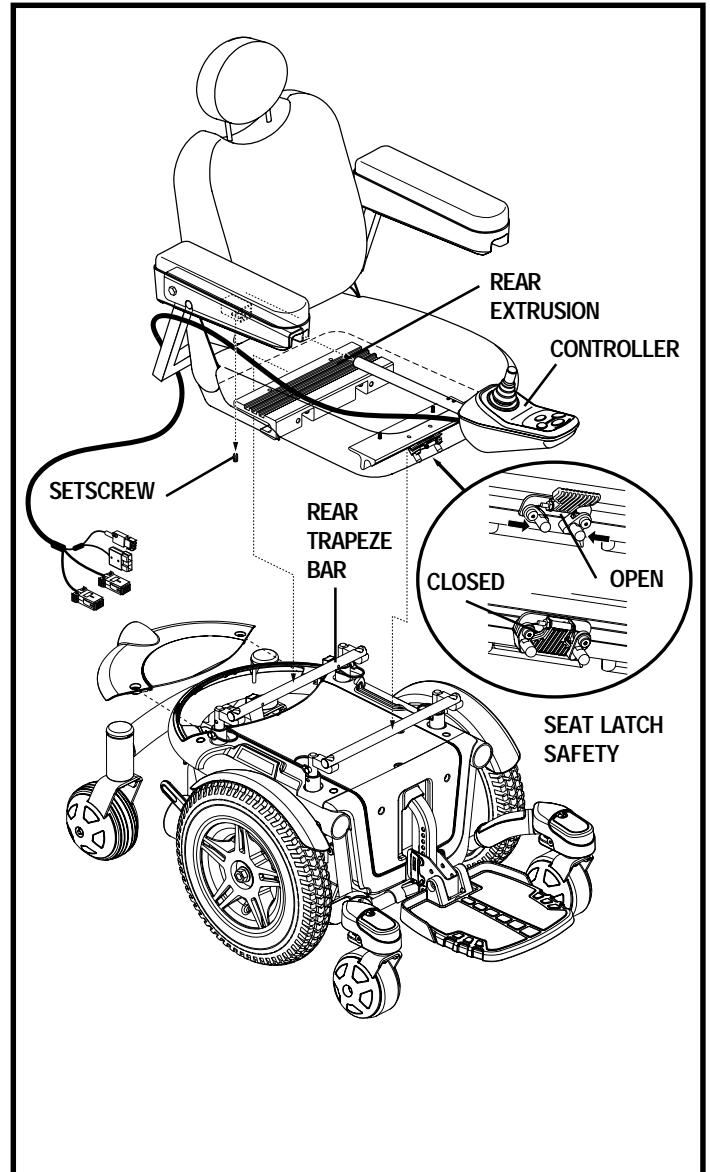

Figure 11. Universal Mounting System
It may be necessary to install the seat either prior to initial operation or after transporting your power chair. Most seats are attached to the power base with the Universal Mounting System (UMS). The UMS consists of universal parts that may be attached to any medium-back or high-back seat, regardless of seat width or seat depth. The two main components are aluminum extrusions mounted to the seat base. These extrusions attach to a pair of trapeze bars that are mounted to the power base. See figure 11.
1. Tilt the seat back and slide the rear extrusion onto the rear trapeze bar. See figure 11.
4. Install the controller into one of the armrests. See figure 11. Tighten the setscrew.